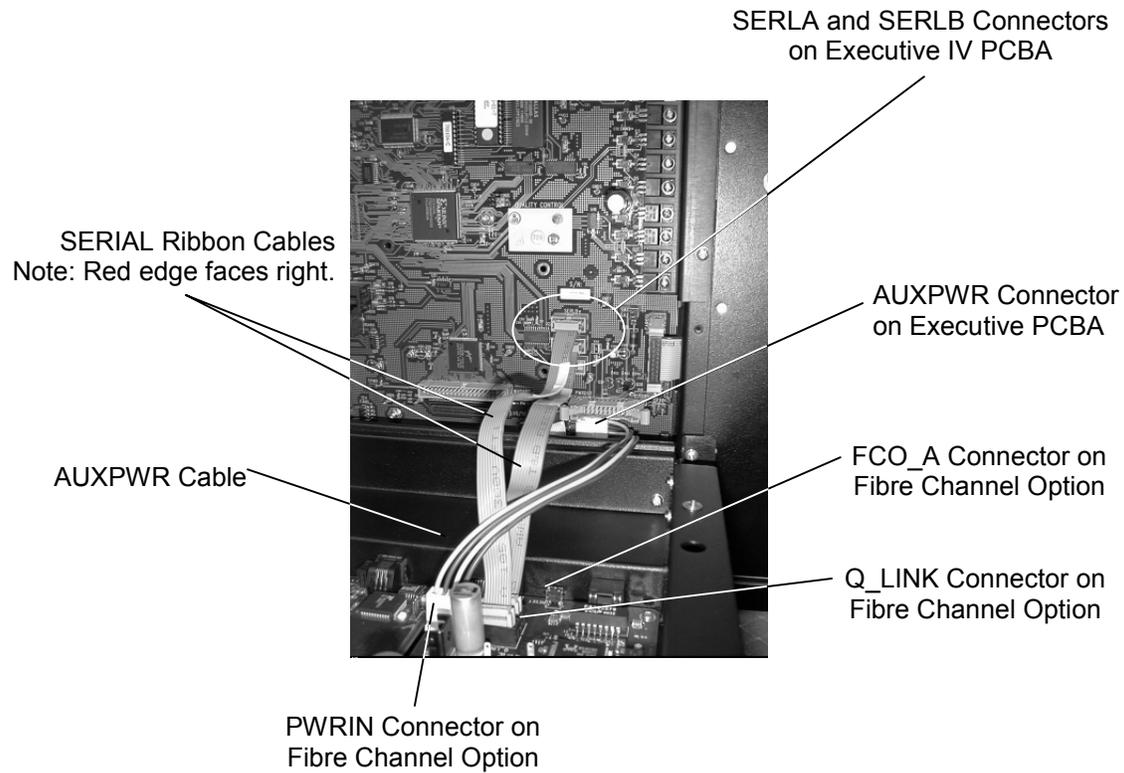

Figure 9-5 Detail of Connections in a Type C FCO
9. Carefully disconnect the AUXPWR cable from the PWRIN connector on the Fibre Channel Option. See Figure 9-5.
10. Carefully disconnect the SERIAL ribbon cable from the FCO_A connector on the Fibre Channel Option. For those FCOs that also have Q-Link, carefully disconnect the SERIAL ribbon cable from the Q_Link connector on the FCO. See Figure 9-5.